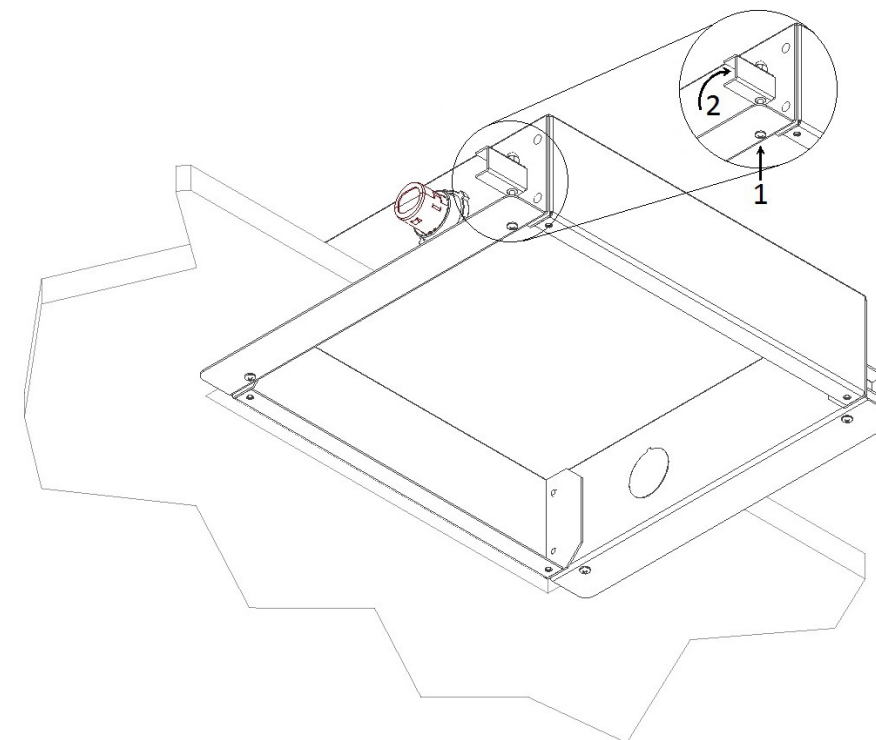

Figure 3 - Back Box Mounting
**Step 7** – Insert the Ethernet cable through the conduit connector previously installed in the enclosure. Insert the box into the opening in the ceiling/wall and using either a hand held screw driver or an electric screw driver set to the lowest torque setting, rotate the screws located at the four corners (#1 in Figure 3). Rotating the screws will cause the dogleg clip to rotate into position (#2 in Figure 3) and travel along the length of the screw, tightening the clip against the drywall. Caution, do not over tighten the screws as it may damage the flange of the enclosure. See OSHPD approved drawing where applicable.
**Step 8** – Once the assembly has been installed in the wall or ceiling, run the Ethernet cable into the enclosure through the conduit connector located on the side of the backbox. Clamp the firestop grommet around the cable far enough to allow attachment to the access point (8" - 10"). Insert the grommet into the conduit fitting (Figures 3 and 4)